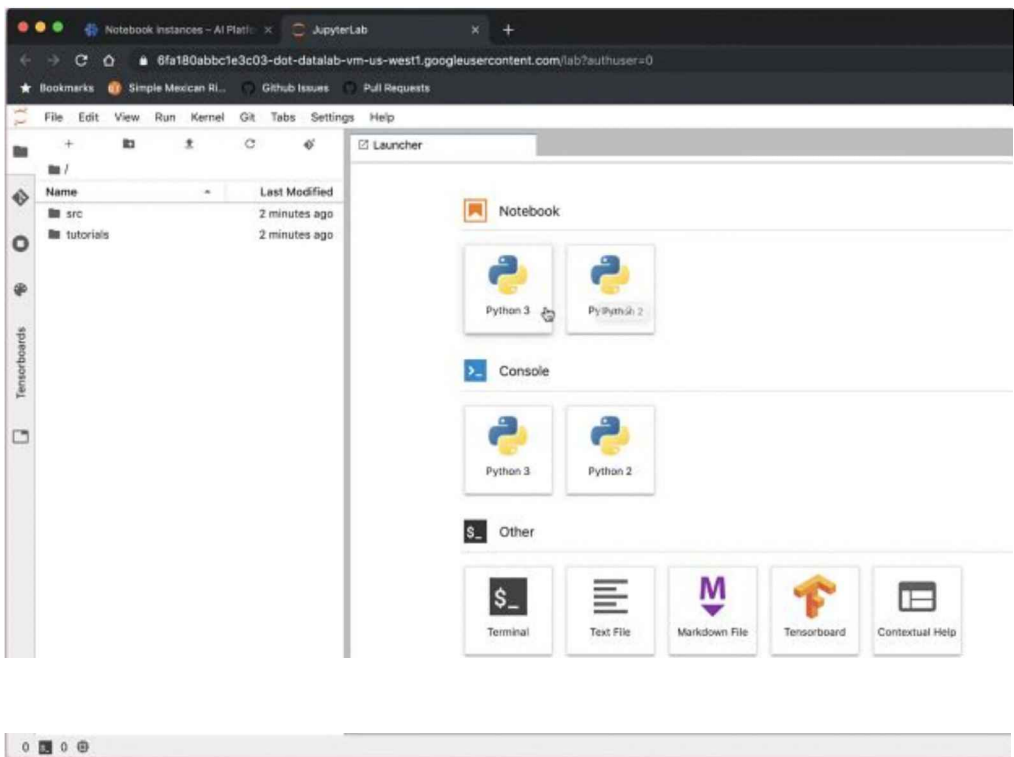

Figure 10-10. The notebook selection screen
- In the screen that opens, choose to create a Python 3 notebook (see Figure 10-10).